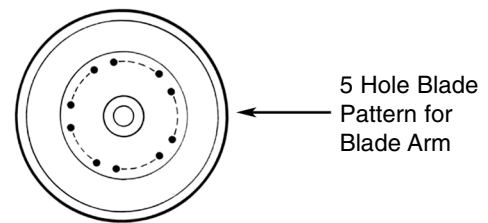

Fig. 13
- ❖ Make sure to review the mounting pattern (it should be 5-hole-blade mounting pattern) and mounting position for each blade (see figure 13).